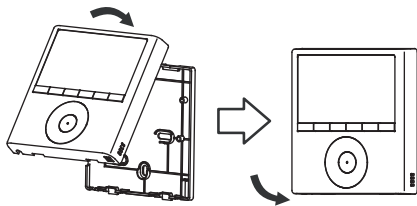

Fig 3-9
- While adjusting and mounting the upper case, avoid clamping the wiring during installation. (Fig 3-9)